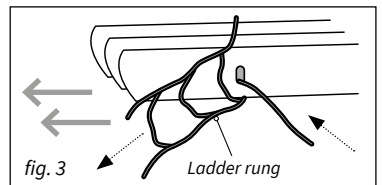

fig. 3
**6.5** Count the number of slats you wish to remove. Pull the lift cord from these slats to allow them to slide out of the ladder rung and remove the required number of slats [fig. 3].